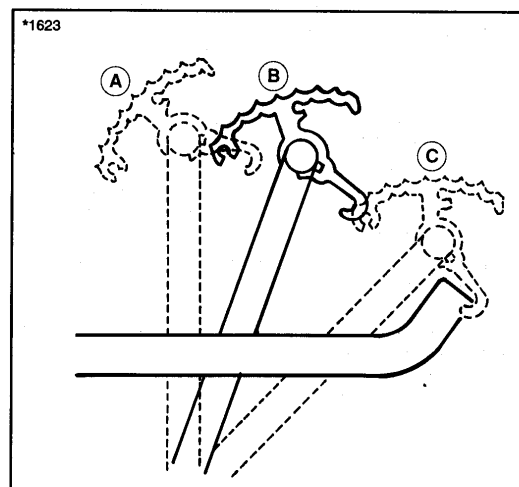

Figure 11. Brake/Clutch Pedal
8. For a gradual stop on gear models, press the pedal down only far enough to disengage the clutch (refer to figure 11). For a more rapid stop, press pedal down farther to apply the brake. See "Before Leaving Operator's Position" (next page). For a gradual stop on hydro models, move the transmission control lever into NEUTRAL position. For a more rapid stop, depress the clutch-brake pedal. If you stop by depressing the pedal, move control lever to NEUTRAL before releasing pedal.
Refer to figure 11. Depressing pedal from position A to B disengages transmission drive. Depressing pedal further from position B to C will also apply tractor brake. Parking brake is applied at position C when pedal is latched over foot rest as shown in figure 11.